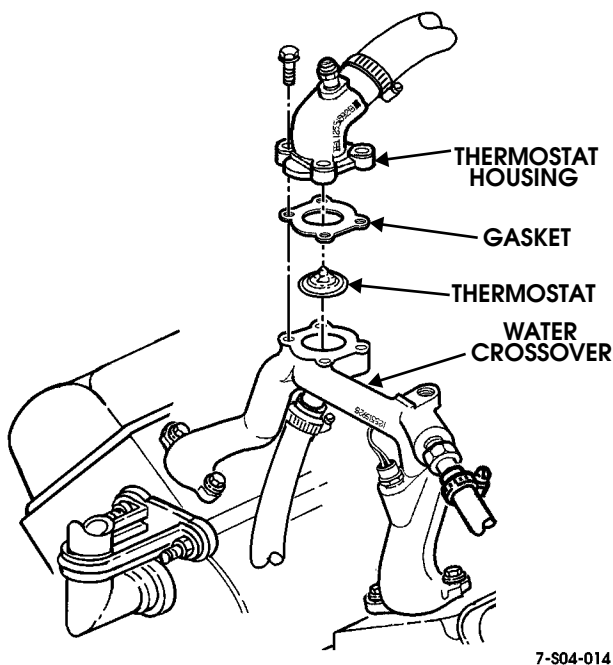

Figure 4-22: Thermostat (Non-Turbo Diesel)
3. Remove thermostat housing from water crossover (Figure 4-22).
5. Clean gasket surface of water crossover and thermostat housing (Figure 4-22).
1. Install thermostat in water crossover (Figure 4-22). Wax pellet end of thermostat goes toward engine.